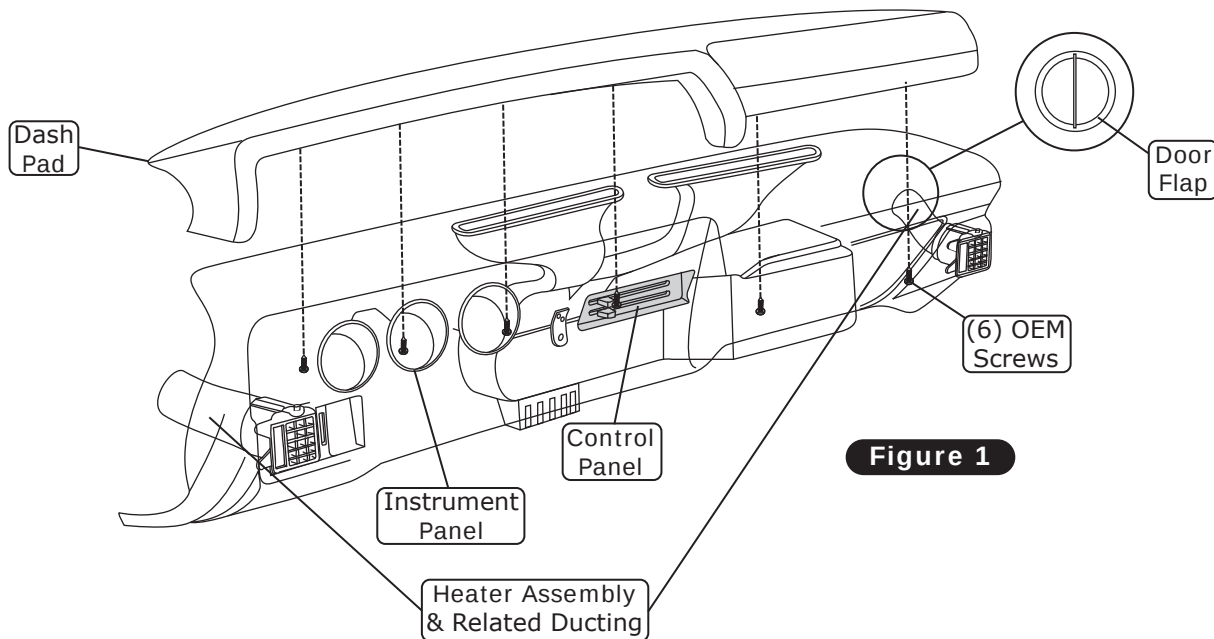

Figure 1
8. Remove the passenger-side kick panel/fresh air door assembly as shown in Figure 1, Page 8.